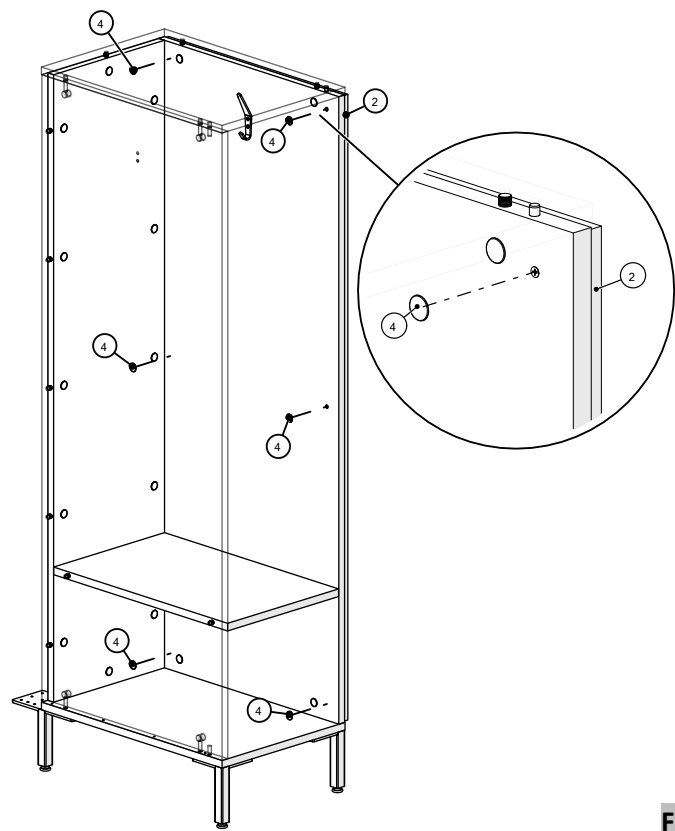

Figure 4
4. Attach the Fast Caps provided, (Figure 4).